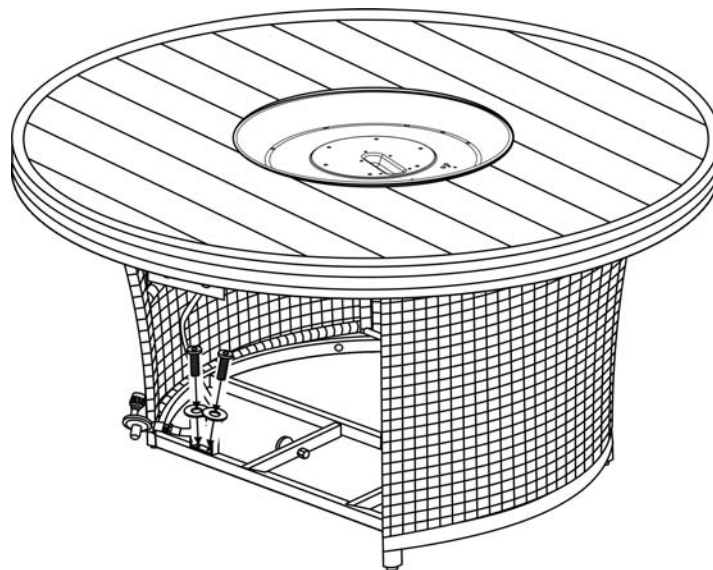

Figure 6
5. Secure the regulator hose to the middle support by using two 1/4"x15 mm bolts and Ø6.5X1.0 mm washers as shown in Figure 6. Guide the bolts through the holes in the metal plate, into the pre-drilled holes in the middle support. **Hand tighten only.**